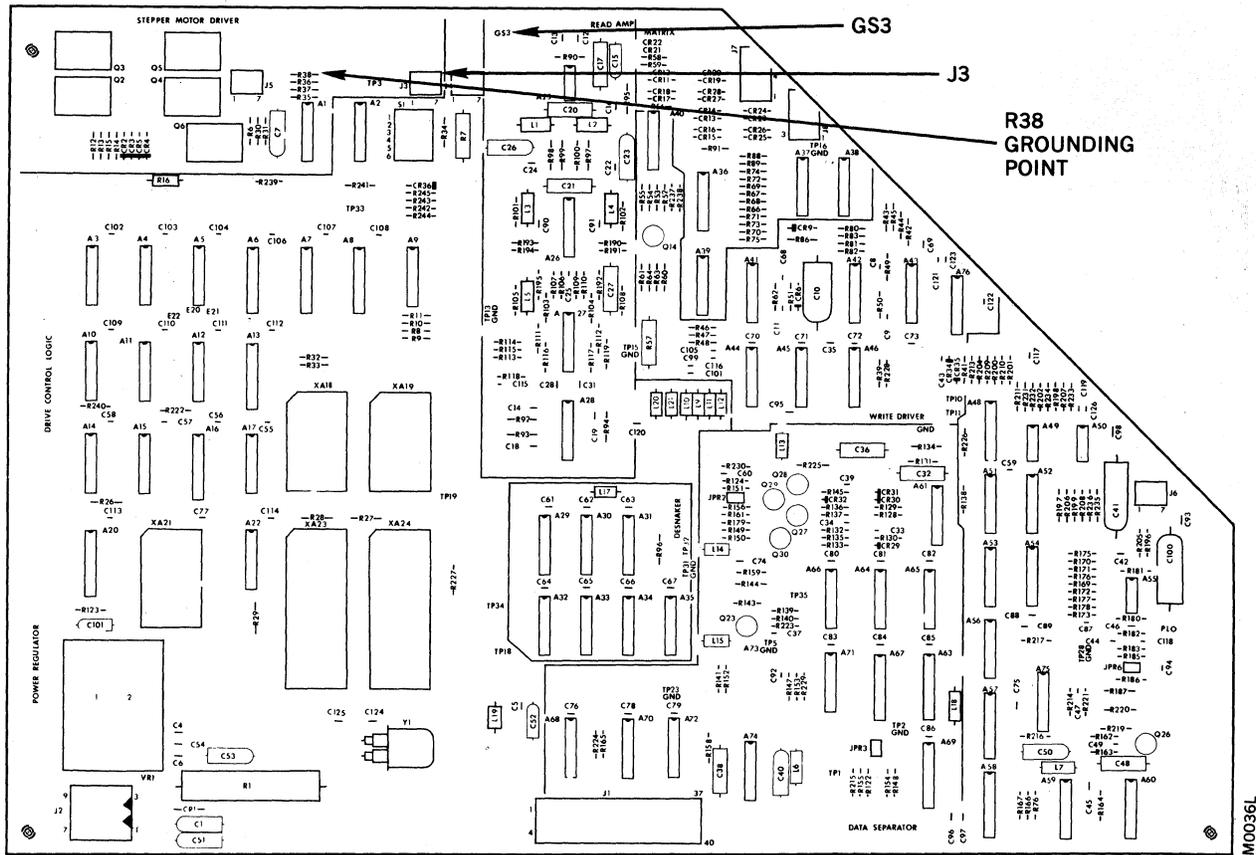

Figure 5-4. Brake Adjustment Jumper Location
- f. Jumper R38 to ground lug GS3 on pcb. (This releases the brake by energizing the run relay). See Figure 5-4.